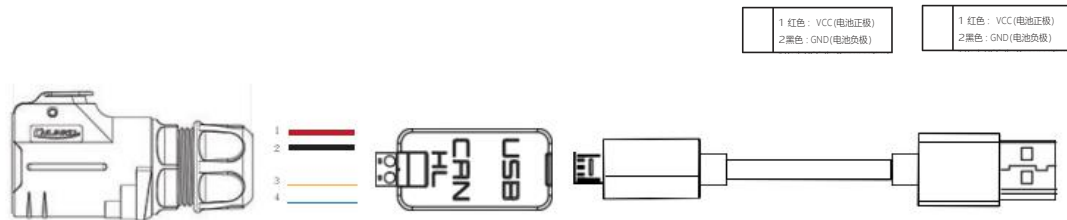

Figure 3.4 CAN Connection Diagram
- Connect the CAN\_TO\_USB to the usb interface of the notebook. The connection diagram is shown in Figure 3.4.